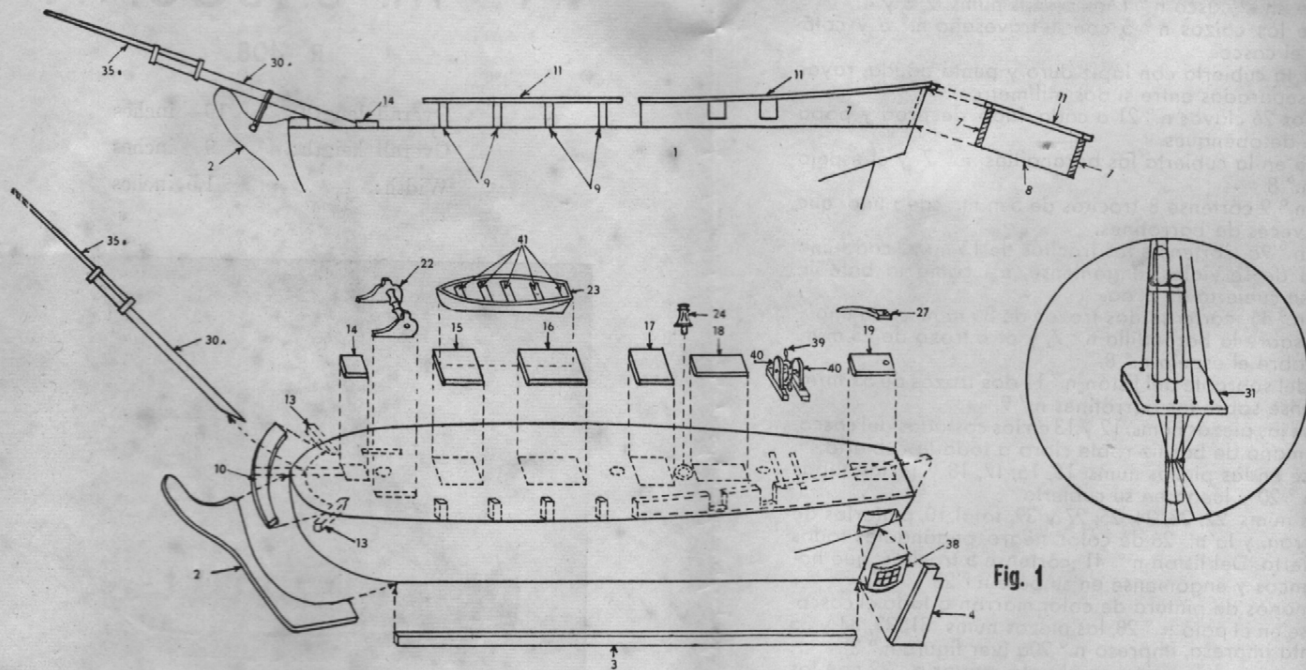

Fig. 1
- Op. 19.—Join the Bowsprit No. 30a to the Jib boom No. 35b and glue it to the deck as indicated in Figs. 1 & 2.